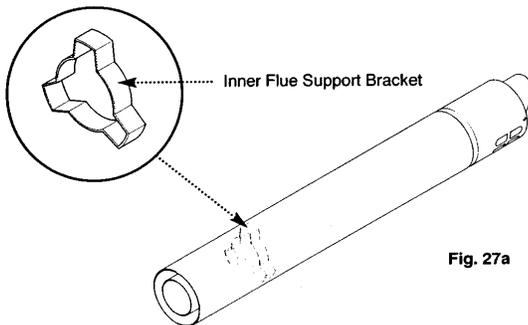

Fig. 27a
**IMPORTANT:** Check all measurements before cutting. When cutting ensure the cut does not interfere with the inner flue support bracket (Fig. 27a).